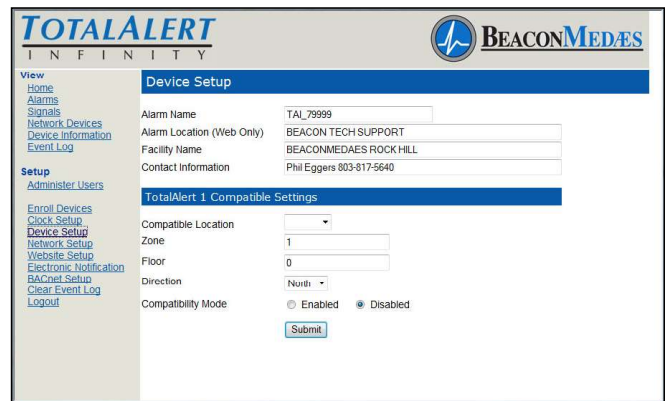

Figure 197: Setup Device Page
1. Click Device Setup to access the Setup Device page (Figure 197).